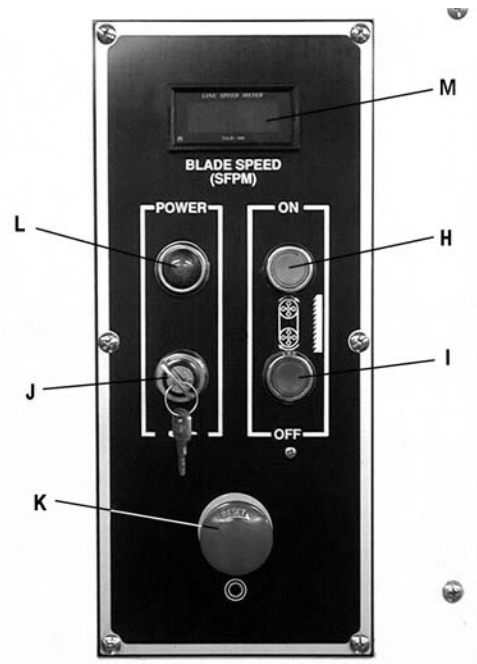

Figure 3
**Main Motor Start Switch (H, Figure 3)** – Press to start band saw.
**Main Motor Stop Switch (I, Figure 3)** – Press to stop band saw.
**Key Lock Switch (J, Figure 3)** – Turn to 12 o'clock position and remove key to lock out power from
**Emergency Stop Switch (K, Figure 3)** – Press to stop all machine functions. Turn 90° to reset.
**Power Lamp (L, Figure 3)** – Illuminated when power is being supplied to band saw.
**Digital Readout (M, Figure 3)** – Indicates blade speed in feet per minute. Note: After saw is first started or the speed has been changed, allow at least a minute for the readout to stabilize the new setting.